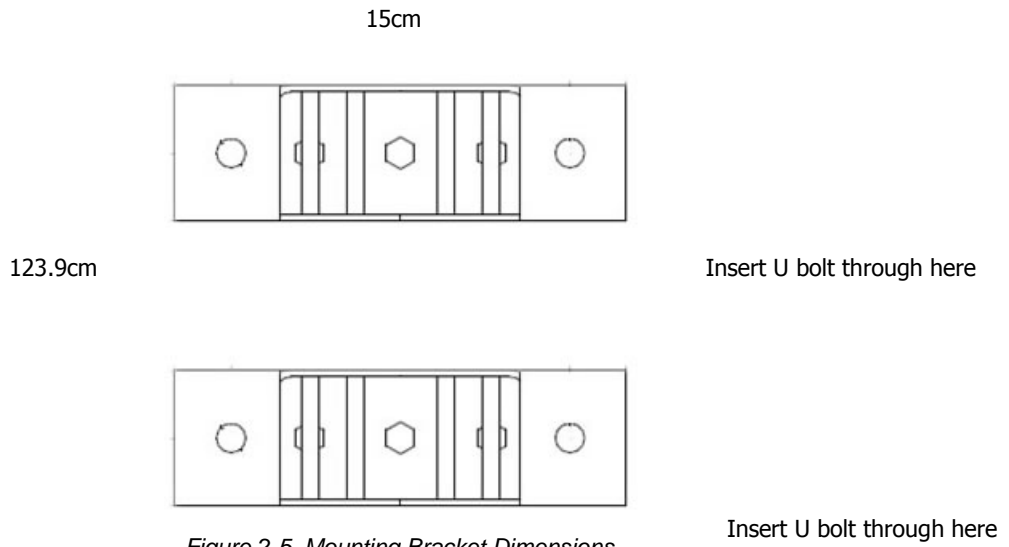

Figure 2-5. Mounting Bracket Dimensions
- a. **U-Bolt (not supplied):** Insert one U-Bolt (per bracket) through the two mounting holes of each bracket and secure the brackets to the pole at the indicated *distance of 123.9cm*. See Figure 2-5.
- b. **Hose Clamps (supplied):** Slip two hose clamps through each bracket as shown in *Figure 2-6* tightly secure each bracket to the pole, maintaining a distance of 123.9cm between bracket *holes* as shown in *Figure 2-5*.